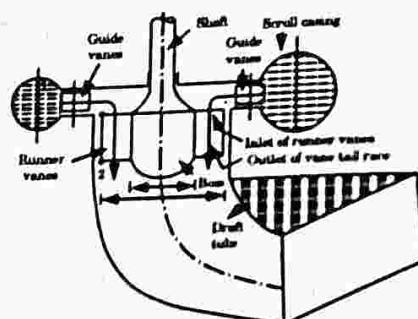

Fig. 5.16.2. Main components of Kalpan turbine.
1. Fig. 5.16.2 shows all main parts of a Kaplan turbine. The water from penstock enters the scroll casing and then moves to the guide vanes.